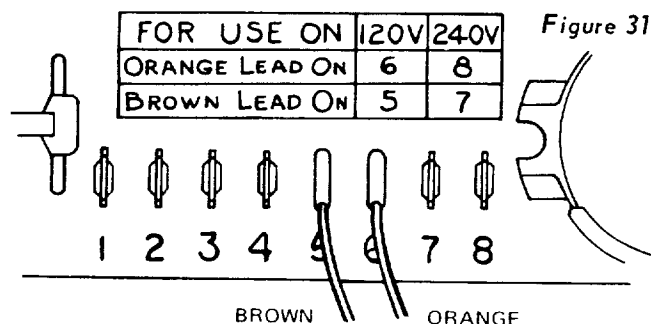

Figure 31
2. Connections for 120V A.C. (Figure 31)